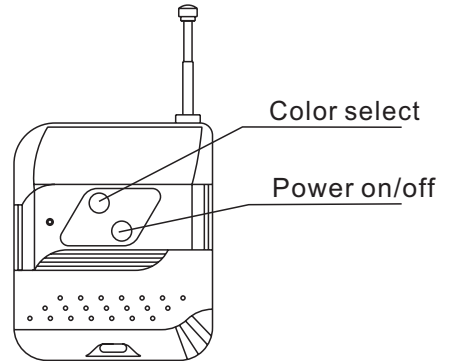

Fig 6
E.The Function of Wireless Remote Control \ Optional:(see fig 6)